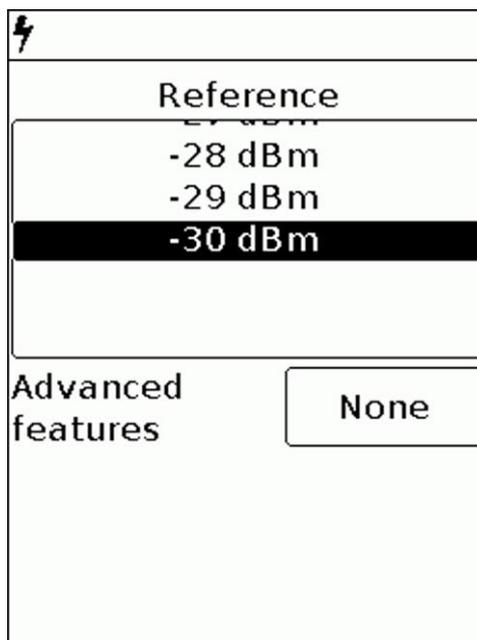

Figure 8.5.1 – Setting the reference level of the input signal
Enter the main menu of the device and select the «Plot» section. A menu will appear on the screen, as in Figure 8.5.1.
8.5.1.1. . To change the scale of the vertical logarithmic scale displaying the amplitude of the test signal, you must change the value of the reference level of the input signal in the range from -30 dBm to 10 dBm. Changing the parameter is performed by "scrolling" the values to a fixed selected area. *In our example in figure 8.5.1, the reference level is set to -30 dBm.*